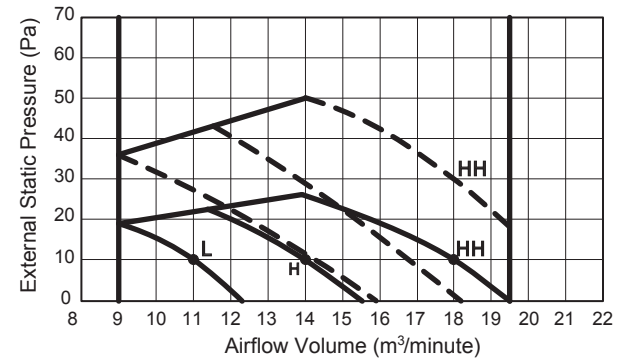

Fig. 3-13
- Be sure to check that the external static pressure is within the range for use and then make the setting. Failure to observe this may result in insufficient airflow or water leakages. Refer to Fig. 3-13 for the external static pressure setting range.
3. Short circuit the applicable short-circuit pin in accordance with the selected short-circuit pin connected (Fig. 3-13).
Refer to table 3-3 and Fig. 3-13 and select a value between “0000” and “0001”.